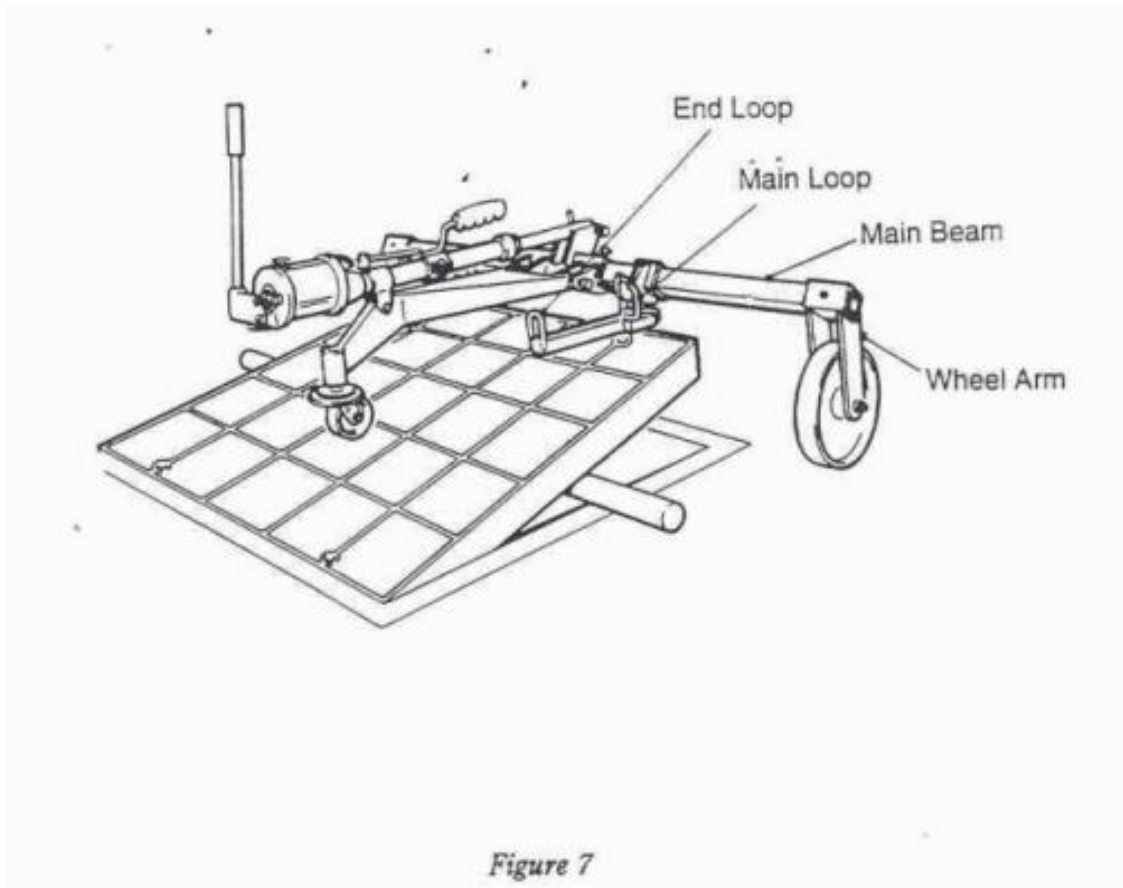

Figure 7
For Elkington type covers, the LMC4 is used in a reversed position with the jockey wheel on the cover (see *Figure 7*). It may be advantageous to remove the manoeuvring handle for these operations.
1. Insert Parts 1A into cover keyholes and secure by turning through 90° with the long arms over the cover (see Figure 7).
7. Insert the roller under the cover as far back as it will go (see Figure 7). This is most easily achieved by rolling the roller from the front. **Do not place the roller bar under the Elkington cover whilst leaning over the hydraulic ram on the LMC4.**